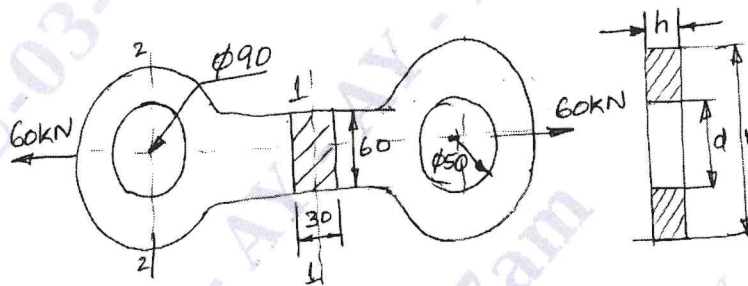

Fig.Q1(a)
- 1 a. Determine the stress induced in a link shown in Fig.Q1(a). It is required to transmit a tensile load of 60 kN in the link.